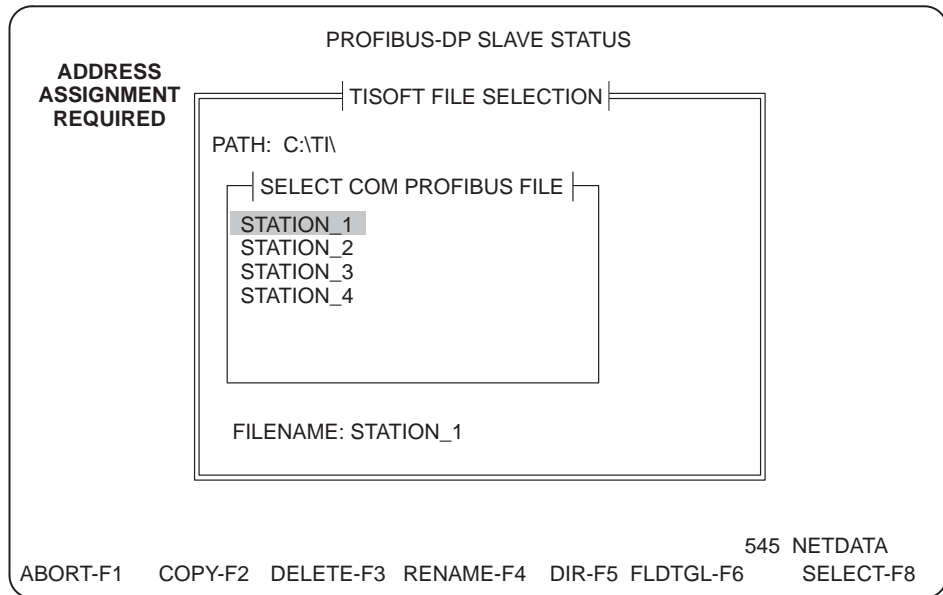

Figure 6-3 Selecting COM PROFIBUS File to Merge in TISOFT
5. Press **YES-F2** in response to the prompt **MERGE COM PROFIBUS BINARY FILE INTO DISK PROGRAM?** The TISOFT File Selection screen appears as shown in Figure 6-3.